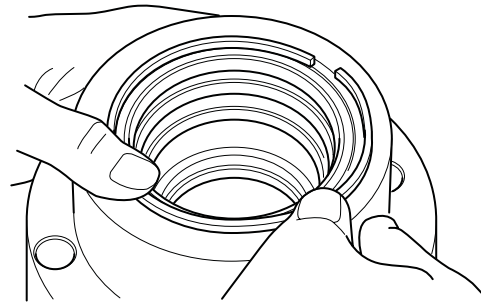

Fig 92.
- 7 Install the retaining ring into its groove → Fig 92. (□ E-199).